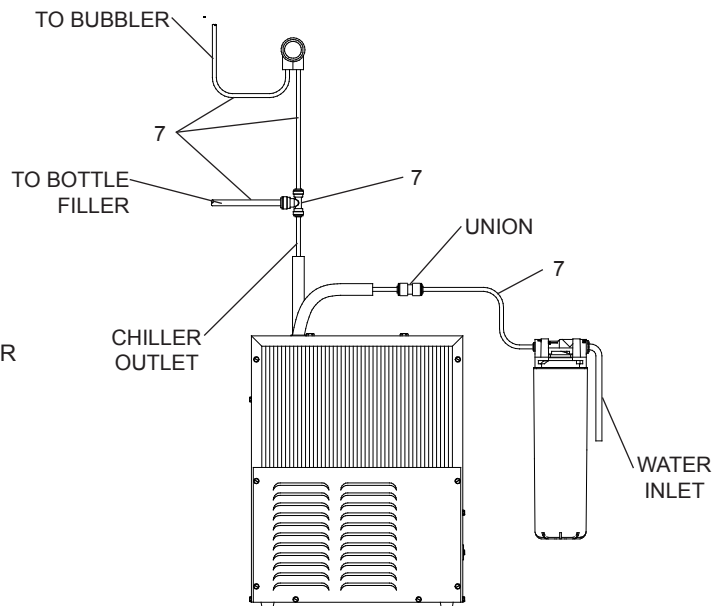

**Figure 4 – HTHBWF-OVL-RF Filter Mounting**
4. (For HTHBWF-OVL-RF) If an existing filter is not present, install filter bracket on chiller (Fig 4), then install the filter head to the bracket, plumb from the filter outlet to the chiller inlet with ¼" poly tubing and ¼ x ¼ union, install filter.